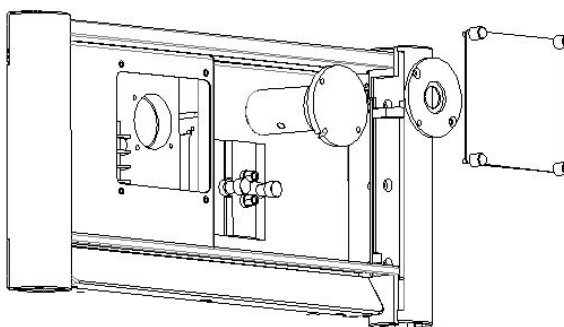

Fig. 5-2 Remove the lamp cap
- 2) Remove the inner lamp cap, as shown in Figure 5-2.